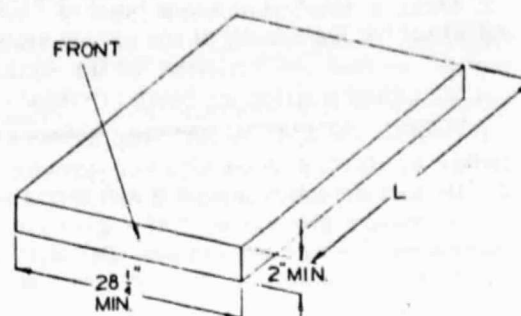

FIGURE 1
A boiler foundation is recommended where the boiler room floor is not level or where the boiler room floor can not support the weight of the boiler. Locate the boiler foundation to provide proper clearances around the boiler for installation of the piping, burner, and internal water heater(s); allow a minimum clearance of 22" from the back of the foundation for breeching erection. Allow 18" clearance to the left side for internal heaters if used. A level concrete pad or curb foundation is suggested of the size shown in the chart and Figure 1.
If the boiler was ordered as completely packaged or with the sections factory assembled, locate the unit on the boiler foundation or on the boiler room floor according to the separate instructions furnished and Figure 1. After the boiler has been positioned in the selected location, proceed to "Hydrostatic Pressure Test of Boiler".
- c. Locate the back section on the boiler foundation shown in Figure 1. Block under the 3" pipe to hold the back section up right without additional support. These sections are top-heavy and will not stand individually without support. Make sure that the section remains in plumb. The 3" pipe can be removed after several sections have been erected.